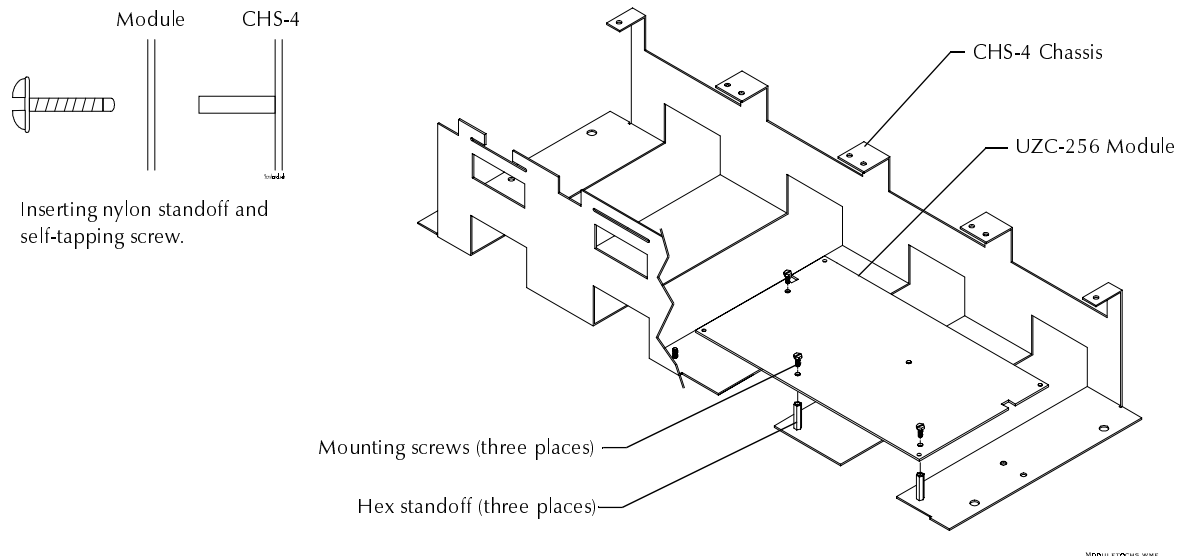

Figure 2-27 Mounting a UZC-256 to a CHS-4
1. Thread the supplied three hex standoffs to the mounting studs on the CHS-4 chassis (Figure 2-27).
2. Place the module onto the CHS-4 as shown in Figure 2-27; then, insert and tighten the mounting screws.